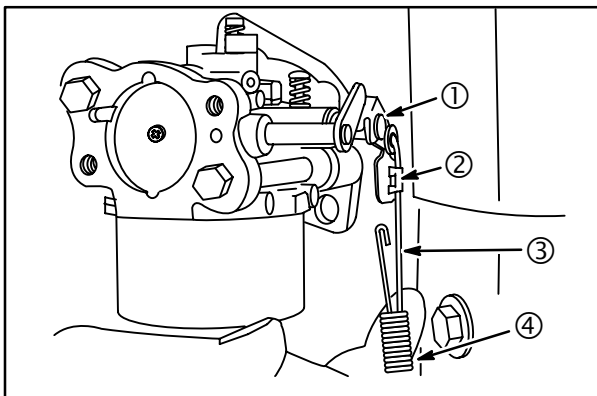

**Fig. 24**
1. Assemble gaskets (2) and spacer (1) to intake manifold.
- Assemble carburetor onto mounting studs, **Fig. 24**.